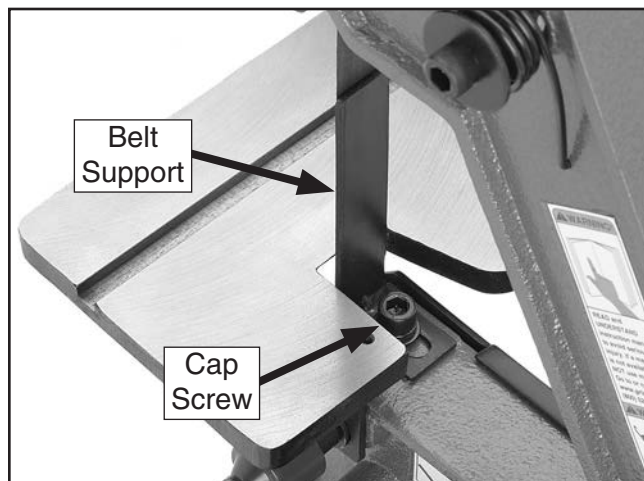

Figure 20. Sanding belt support.
20. Loosen the cap screw shown in **Figure 20**, adjust the belt support approximately $\frac{1}{16}$ " away from the sanding belt, then re-tighten the cap screw.